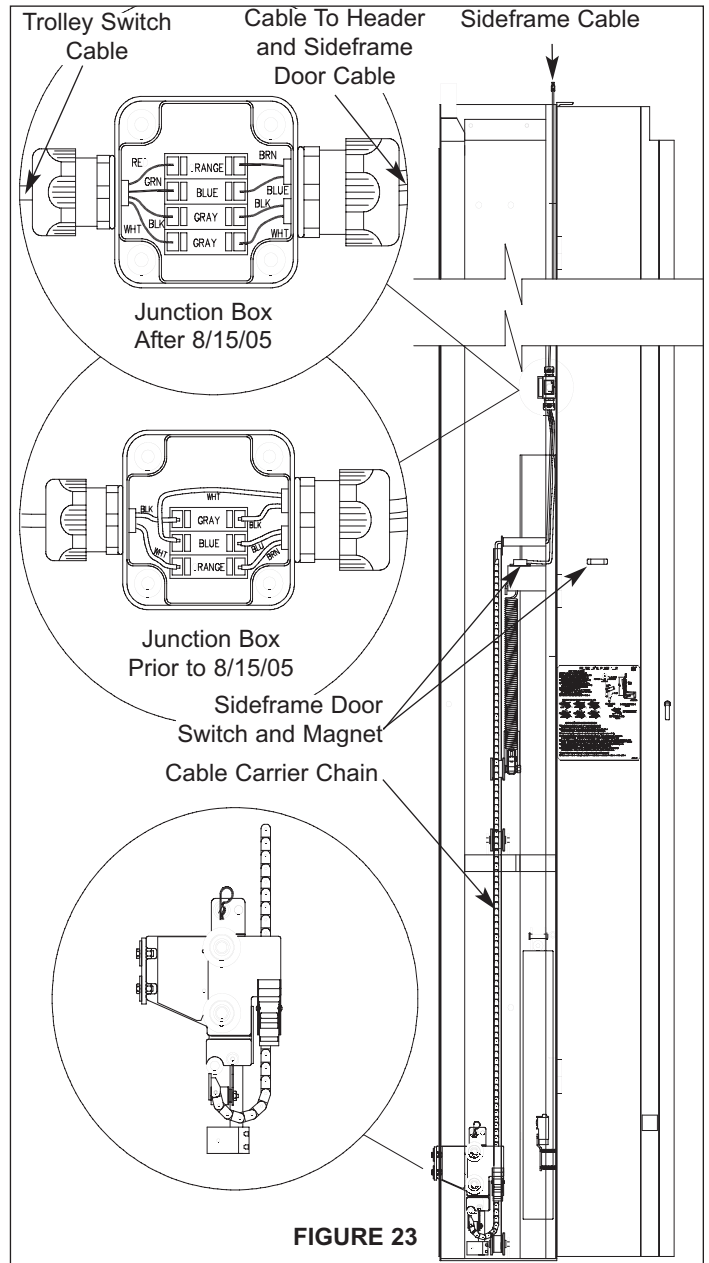

FIGURE 23
3. For protection, the sideframe doors have a magnet and proximity switch that monitor when the doors are opened, placing the door into a fault condition which prevents the door from being activated, **Figure 23**.